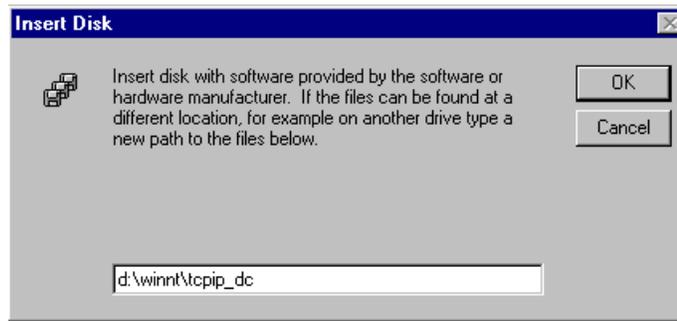

Figure 6-6. Insert Disk
- Click the **H**ave Disk button. The Insert Disk dialog box will display (Figure 6-6).